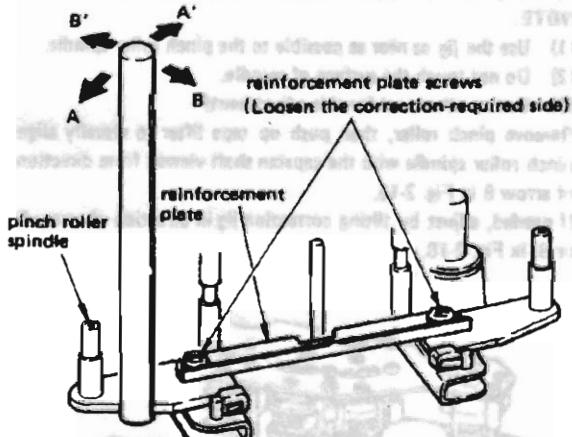

Fig. 2-18 Pinch roller/capstan alignment
- If not parallel, loosen the reinforcement plate screw near the correction-required side (Refer to Fig. 2-18), then correct tilt of pinch roller spindle using correction jig. Adjustment can be done by tilting correction jig in direction of arrow A or A'.
5. If needed, adjust by tilting correction jig in direction of arrow B or B' in Fig. 2-18.
4. If a change is found, re-adjust accurately tilt of pinch roller spindle by method illustrated in Fig. 2-18.